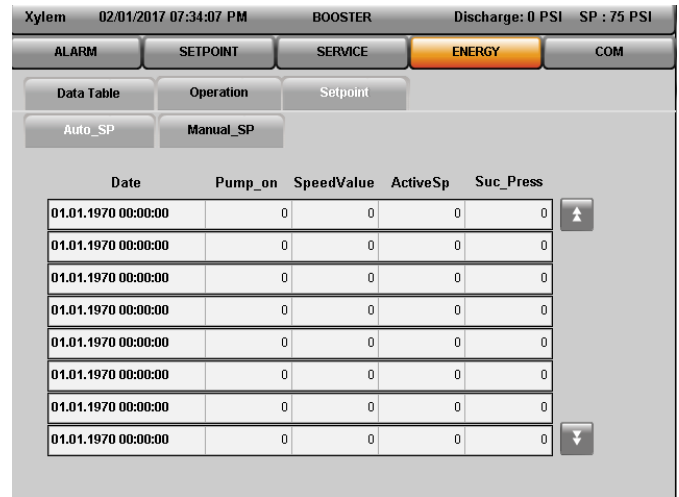

Figure 5.6.6 – Auto Setpoint
- Auto Setpoint:** Page for Auto Setpoint logging is shown in Figure 5.6.6. Setpoint changed through Flow Compensation function will be logged on this page along with the Date/Time stamp, Number of pumps running, Speed and Suction Pressure.